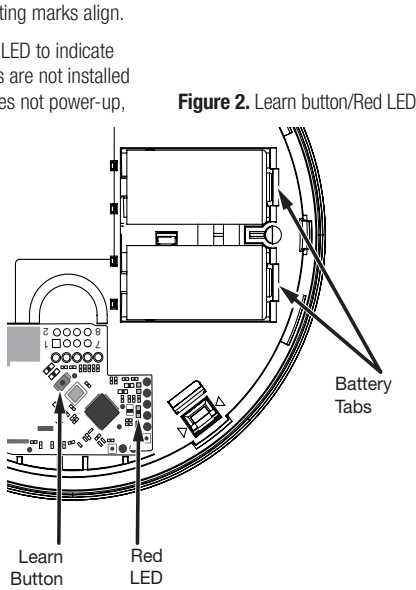

Figure 2. Learn button/Red LED
- If Detector is already powered up, remove it from the base plate then press and hold the **Learn** button for 3 seconds until red LED starts to flash (see **Figure 2**).